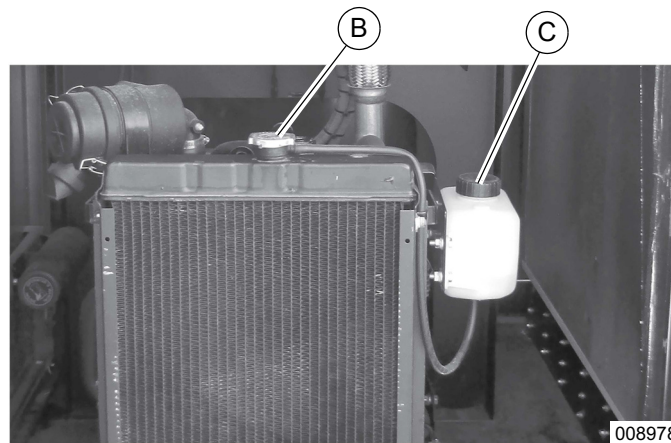

Figure 4-2. Radiator Location
3. See Figure 4-2. Remove radiator cap (B).